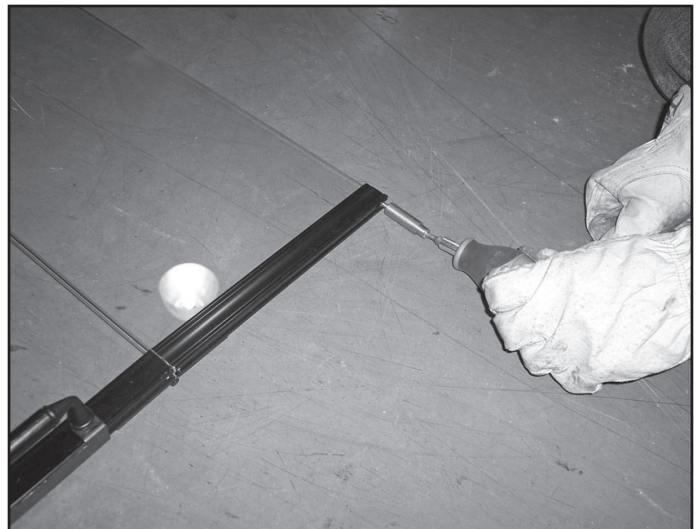

Figure 14.26 Install Pins
- Remove the shorter door pins using a phillips screwdriver and replace them with the longer pins. See Figure 14.26.